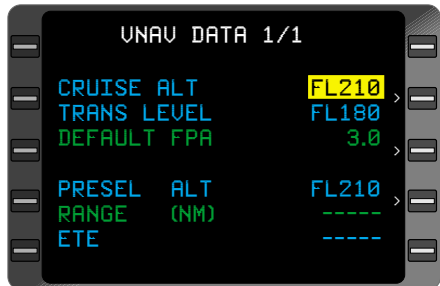

Figure 3-120
4. Cruise Altitude - INSERT. (Figure 3-120)